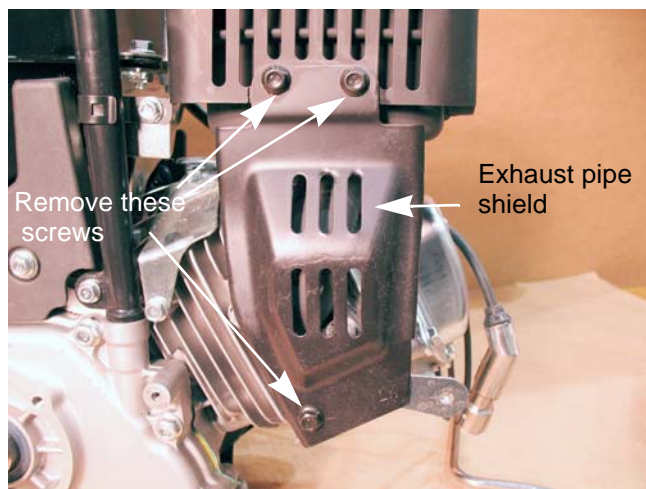

Figure 8.3
5. Remove the three screws that secure the exhaust pipe shield using a 10 mm wrench. See Figure 8.3.